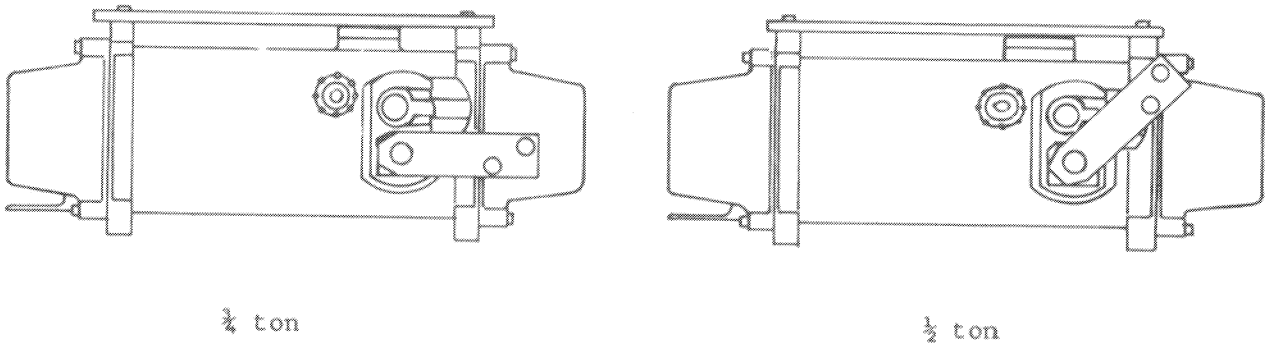

Fig. 19 Installation of retainer, lead electrical
8. Clip retainer, lead electrical (5999-99-637-0880) into the whip antenna socket on top of the radio set. Orientate it as indicated in fig. 19.